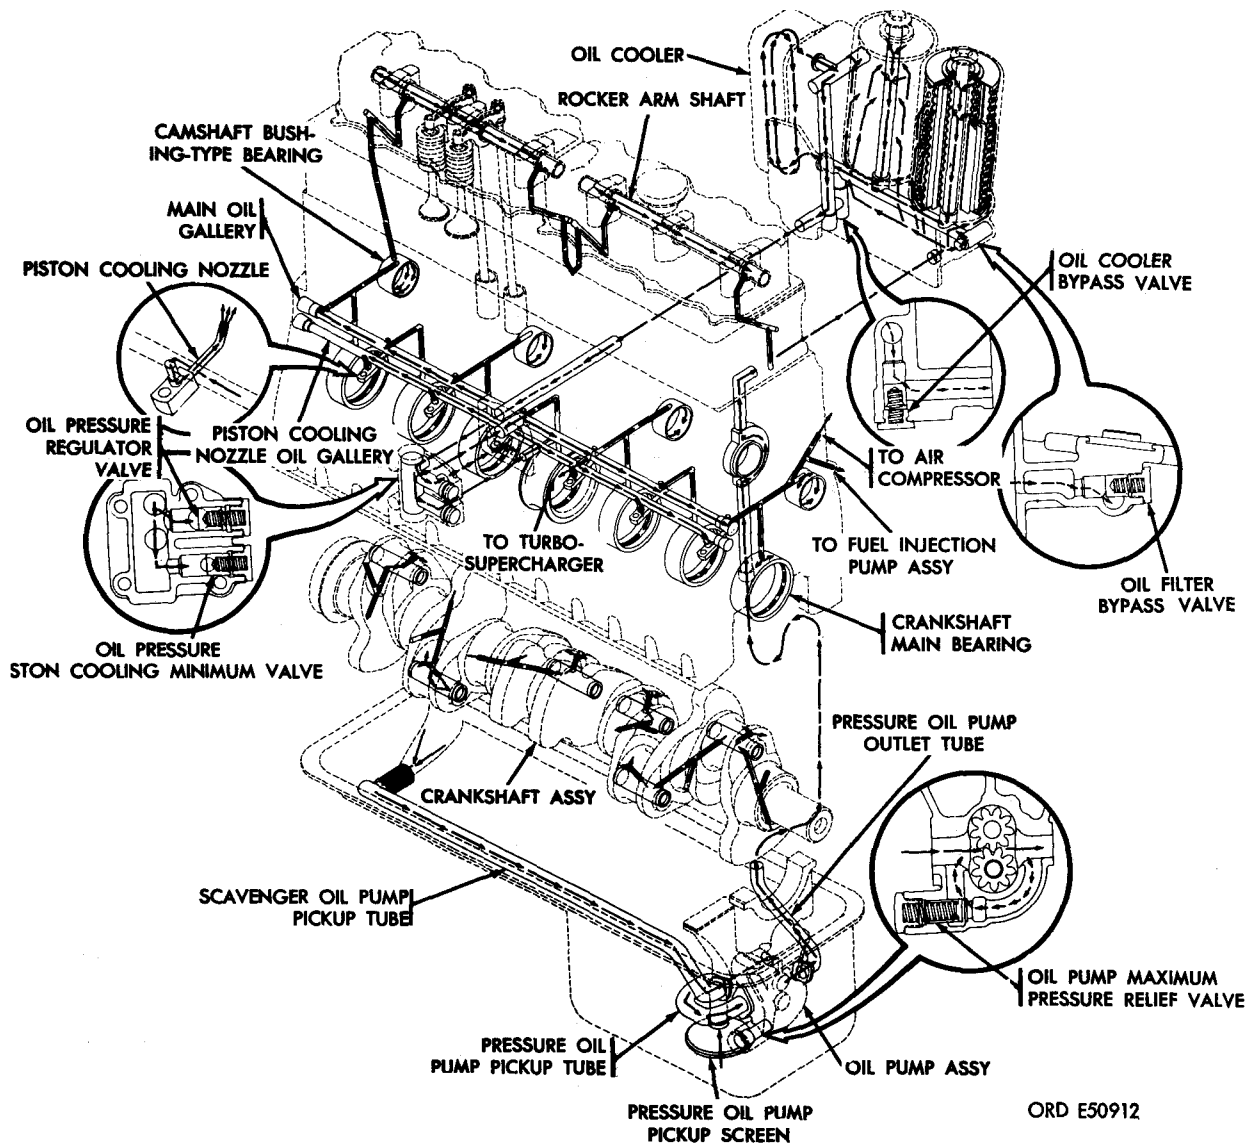

FIGURE 18. ENGINE LUBRICATION SYSTEM DIAGRAM.
#### 10. MAIN BEARINGS (Fig. 18)
## 29. LUBRICATION SYSTEM (Fig. 18)
**f. Bearing Lubrication (fig. 18).** The crankshaft, connecting rod, and camshaft bushing-type bearings are lubricated from drilled passages in the cylinder and crankcase and through the crankshaft journals and cheeks. Oil under pressure from the oil filters and oil cooler enters the main oil gallery in the cylinder and crankcase. Oil flows from the oil gallery through oil passages to the crankshaft main bearings and camshaft bushing-type bearings. Oil lubricating the crankshaft main bearings flows around the bearings to the drilled oil passages in the crankshaft journals and cheeks and to the connecting rod bearings. Excess oil leaving the bearings flows back to the oil pan to be recirculated. The valve rocker arm bearings and other components of the valve train are lubricated with oil fed through a passage leading from the rear camshaft bearing.